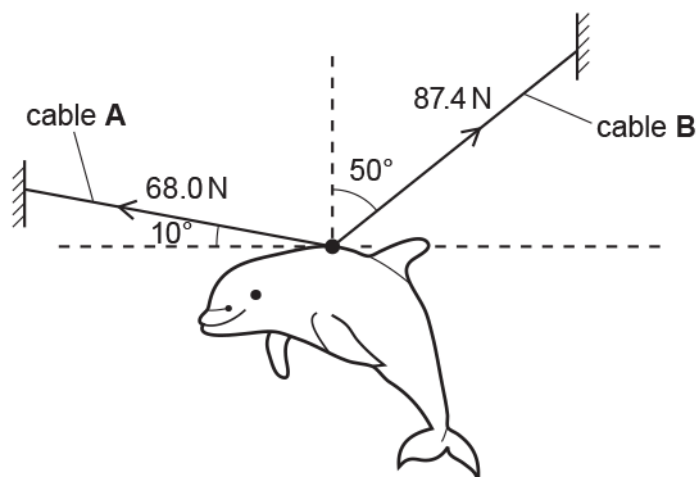

Fig. 21.2
60. Fig. 21.2 shows a model dolphin in a museum. The dolphin is held in equilibrium by two cables **A** and **B**.